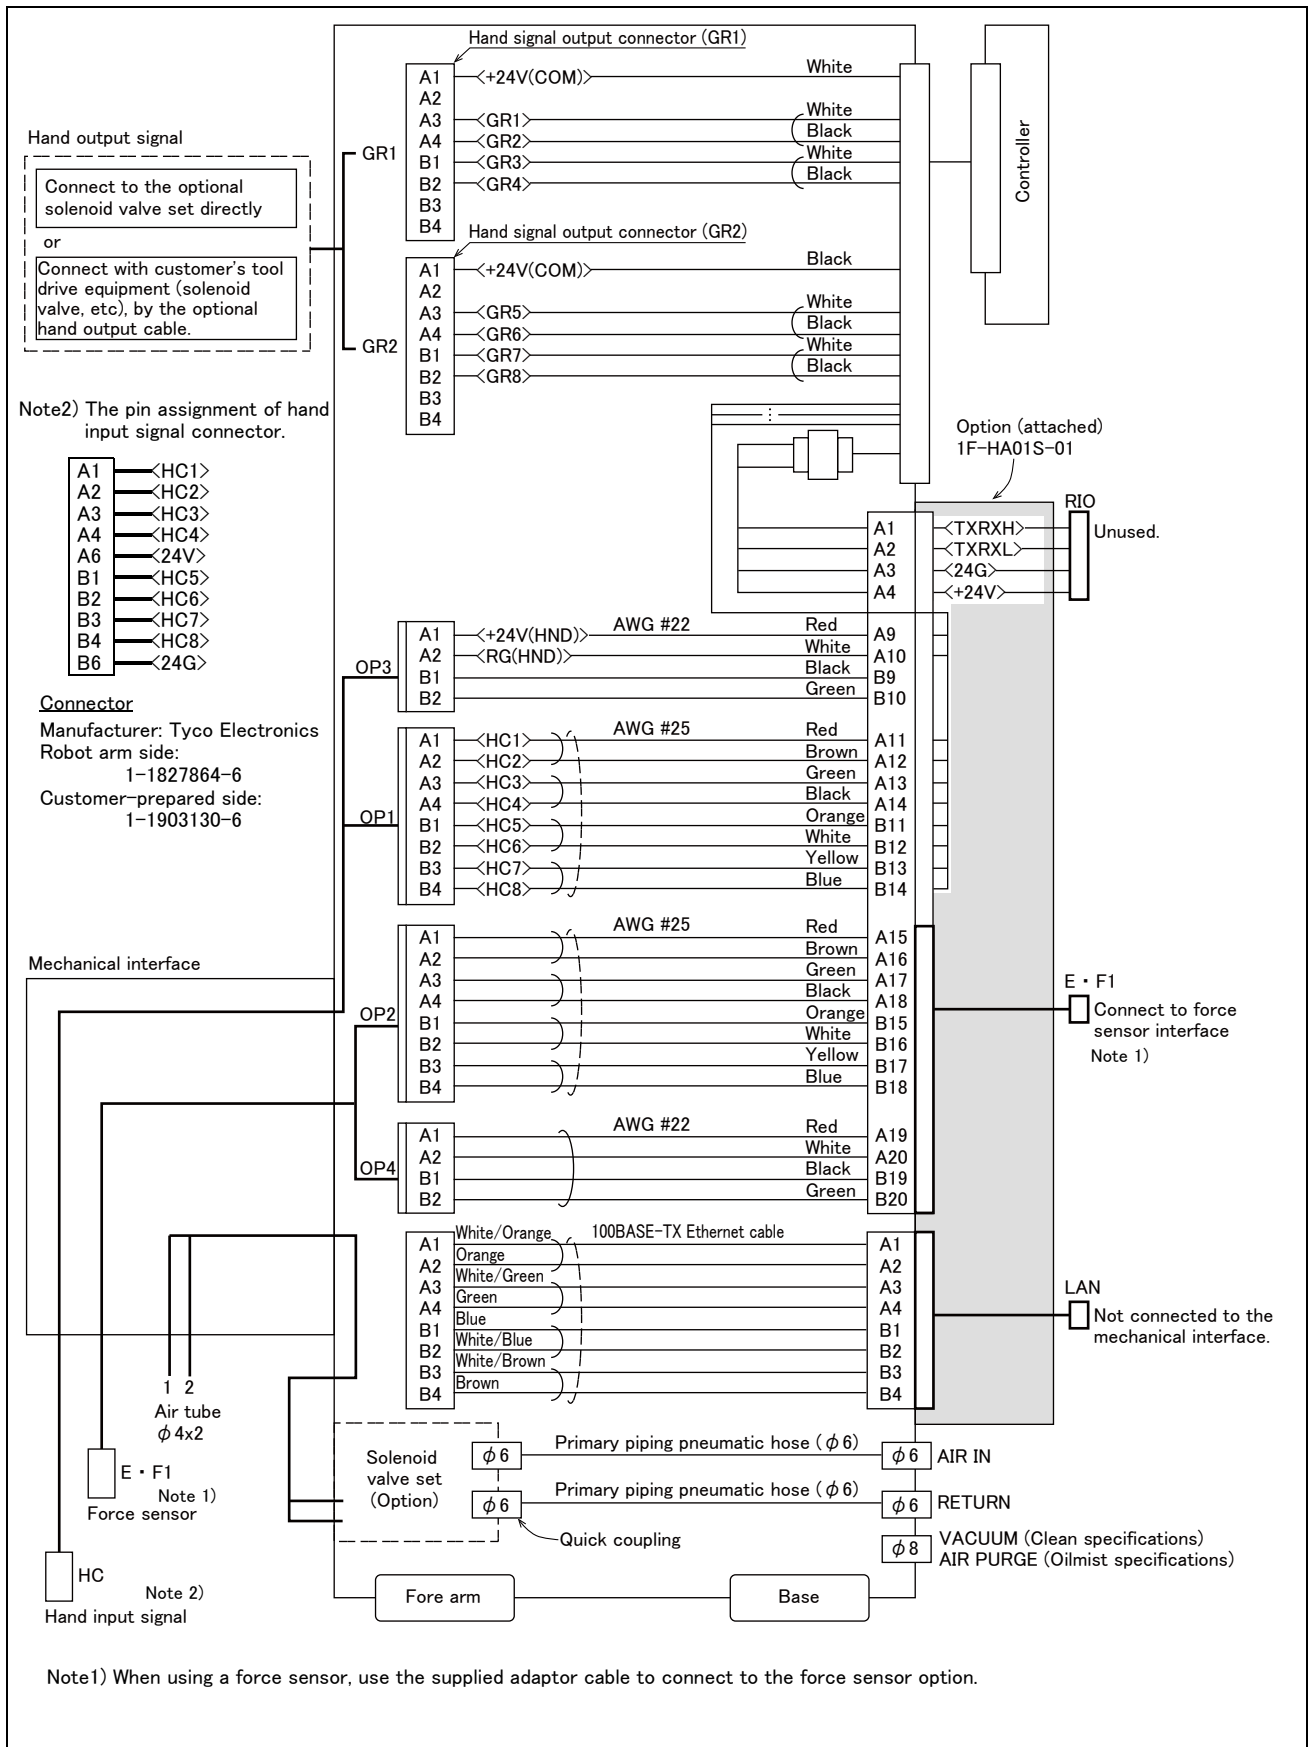

Fig.2-37 : Wiring and piping system diagram for hand and example the solenoid valve installation: RV-4FR/7FR/13FR series SH04
- \*3) Refer to Fig. 2-37 for pin assignment of the hand input cable (HC).